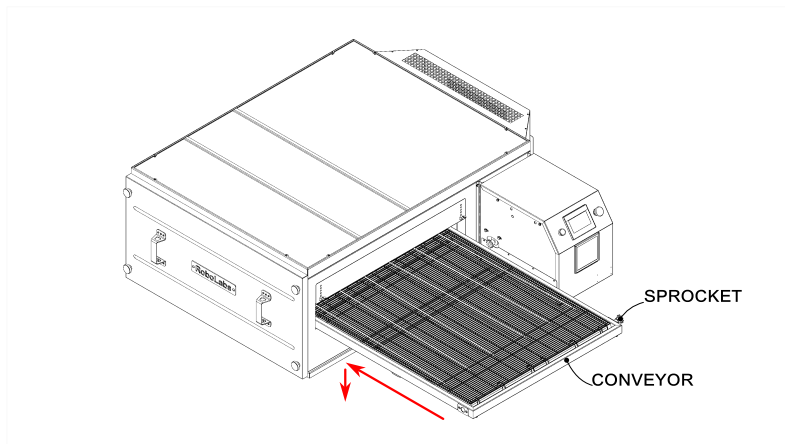

Figure 4
5. Put **conveyor** inside, note the position of drive shaft **sprocket** on the conveyor, see Fig. 4.